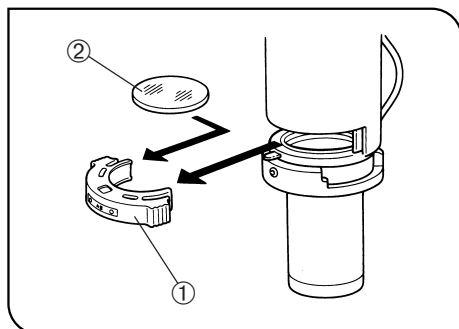

Fig. 34
**9 Mounting the Filters** (Figs. 34 & 35)